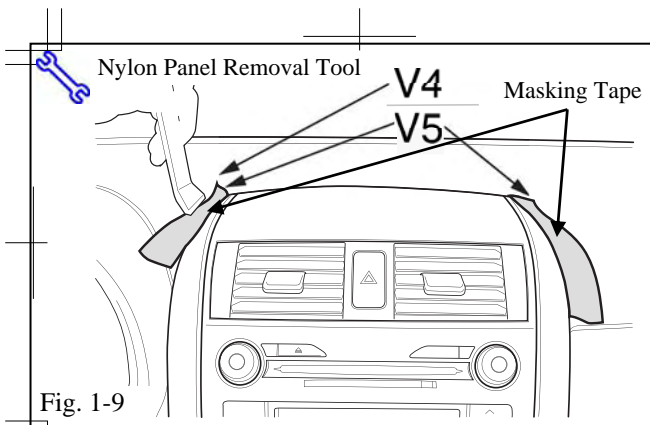

Fig. 1-9
- (i) Apply Masking tape to the dash as shown to protect it during the removal of the Center Cluster's Upper Trim. (Fig. 1-9)
- (1) Don't apply the tape to the Trim pieces.